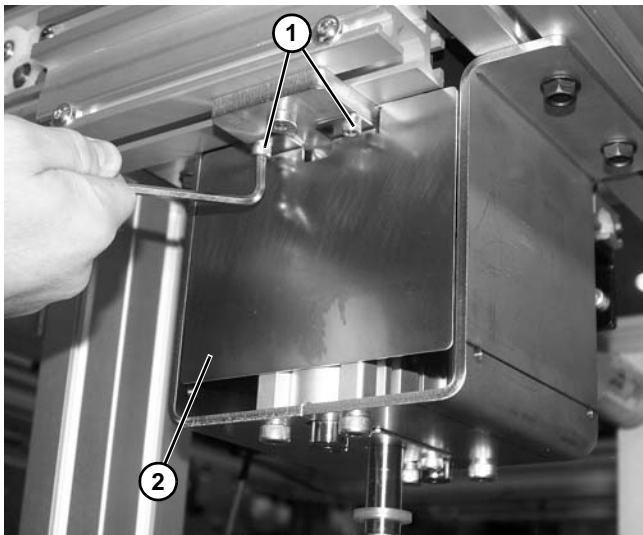

Figure 106
3. Remove two screws (Figure 106, item 1) and remove side guard (Figure 106, item 2).